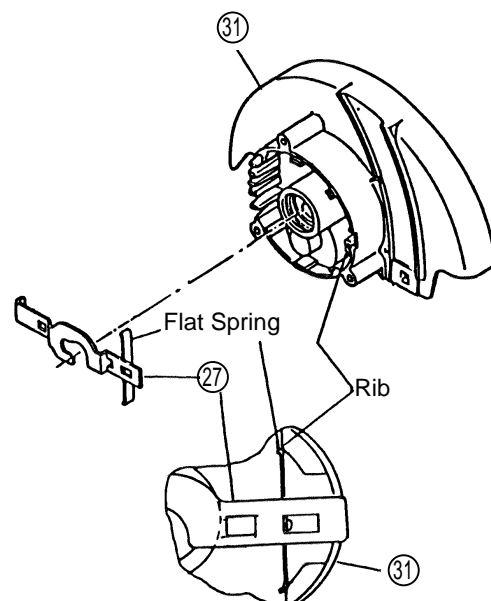

Fig. 2
- (3) Reassembly of the Lock Lever ②⑦ (②⑦): (See Fig. 2)
- Position the Lock Lever ②⑦ (②⑦) between the Fan and the 6201VVCMP52S Ball Bearing ②⑨ (②⑨), and carefully assemble it together with the Armature Ass'y ②⑥ (②⑥) into the Gear Cover ③① (③①).
- Carefully ensure that both ends of the Flat Spring on the Lock Lever ②⑦ (②⑦) are properly supported inside the ribs of the Gear Cover ③① (③①), as illustrated in Fig. 2.
- When assembly of the Lock Lever ②⑦ (②⑦) is completed (when the Gear Cover ③① (③①) has been assembled to the Housing Ass'y ①⑧ (①⑧) and fastened with the M5 x 45 Machine Screws (w/washers) ①⑦ (①⑦)), push the Lock